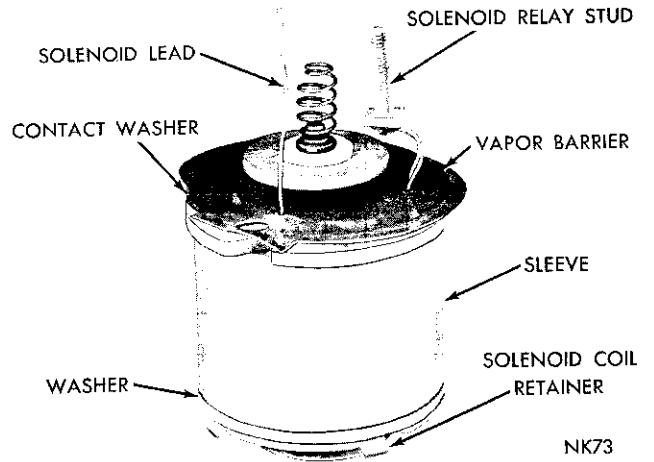
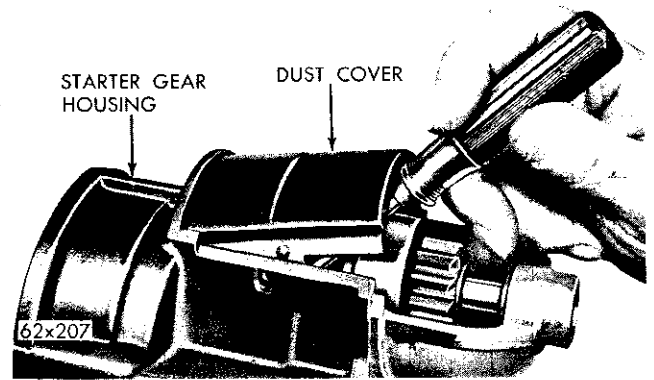
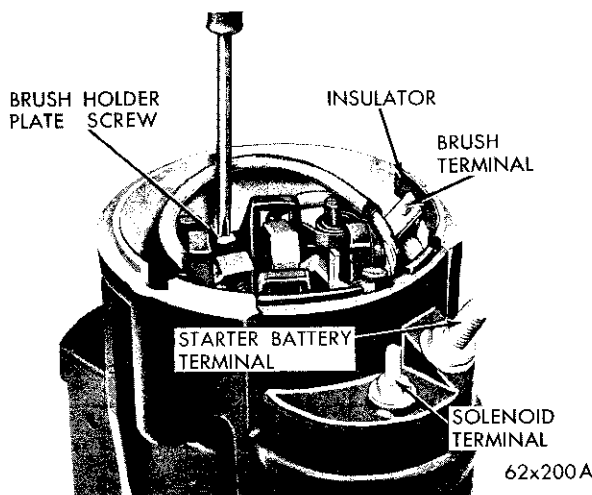

Fig. 6—Solenoid Assembly Removed
Fig. 7—Removing the Dust Cover
Fig. 5—Removing or installing Brush Holder Plate Screw
(8) Remove the screw attaching the brush holder plate to the starter gear housing (Fig. 5).
(9) Remove the nut ($1\frac{1}{32}$ wrench), steel washer and insulating washer from the solenoid terminal.
(10) Straighten the solenoid wire and remove the brush holder plate with the brushes as an assembly.
(11) Remove the solenoid assembly from the gear housing well (Fig. 6).
(12) Remove the nut, steel washer and the sealing washer from the starter battery terminal.
(13) Remove the starter battery terminal from the holder plate.
(14) Remove the solenoid contact and plunger from the solenoid.
(15) Remove the solenoid return spring from the well of the solenoid housing moving core.
(16) Remove the dust cover from the gear housing, (Fig. 7).